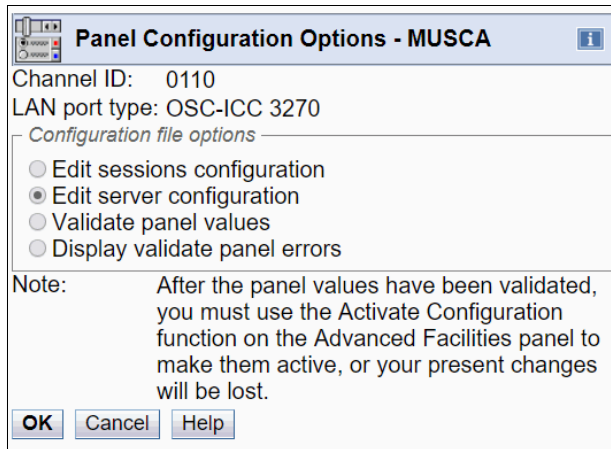

Figure 7-3 Selecting Edit server configuration option
- The Panel Configuration Options window opens (see Figure 7-3). Define the session and server configurations in this window, and then, validate those values. In this example, we define the server configuration first. Next, we define the session configuration. To edit the server configuration, select **Edit server configuration** and click **OK**.